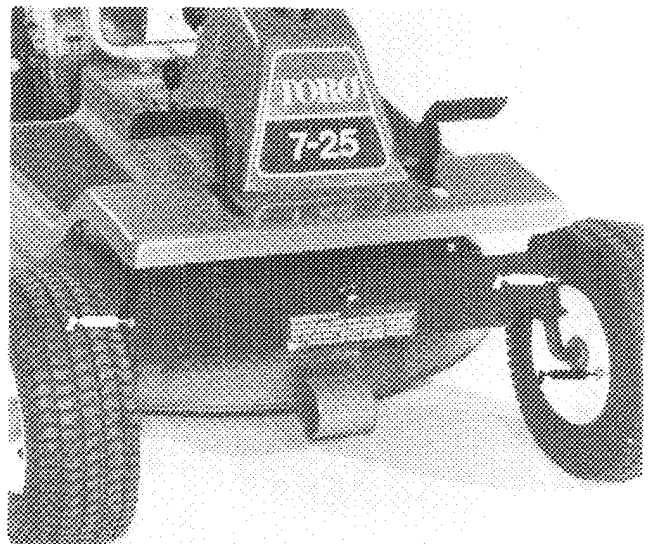

Figure 13
1. Wipe grease fittings on spindles and wheels (Fig. 13) with a clean rag. If there is paint on front of fittings, scrape it off.
2. Lubricate both axle spindles w/No. 2 general purpose grease (Fig. 13). Continue to pump grease until it oozes out the spindle. Wipe up any excess grease.
3. Lubricate both front wheels w/No. 2 general purpose grease (Fig. 13). Pump grease gun about four times. Wipe up any excess grease.